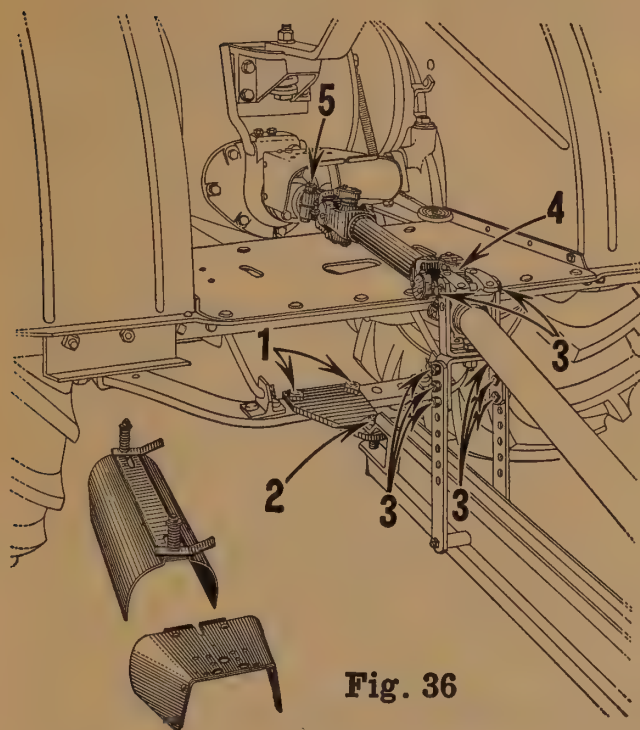

Fig. 36
1. (Fig. 36.) Bolt extension drawbar plate to **top** side of tractor drawbar as shown.
2. (Fig. 36.) Connect Binder to extension drawbar plate.
3. (Fig. 36.) Adjust height of power shaft front bearing to level power line as shown.
4. (Fig. 36.) Remove tape around key in front end of telescoping pipe for power drive. Remove cap screw, lugged lock washer and notched retaining washer from front end of telescoping pipe. Slide rear universal joint onto front end of telescoping pipe and replace notched retaining washer, lugged lock washer and cap screw. Be sure to fit bent lug on lock washer into notch in retaining washer and to
5. (Fig. 36.) Slide front splined universal joint onto take-off shaft on tractor and secure in place with clamp bolt and cotter.